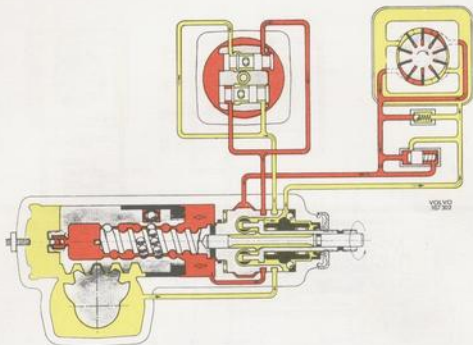

Fig. 6-45. Principle of function, left-hand turn
When the steering wheel is turned to the left (see Fig. 6-45) movement is transmitted via the control spindle (16) and the torsion bar (17) to the worm (15), so that the piston (2) is screwed to the left in the figure (downwards in the vehicle). Since the torsion bar is resilient, the steering spindle will be turned in relation to the worm and thus influence